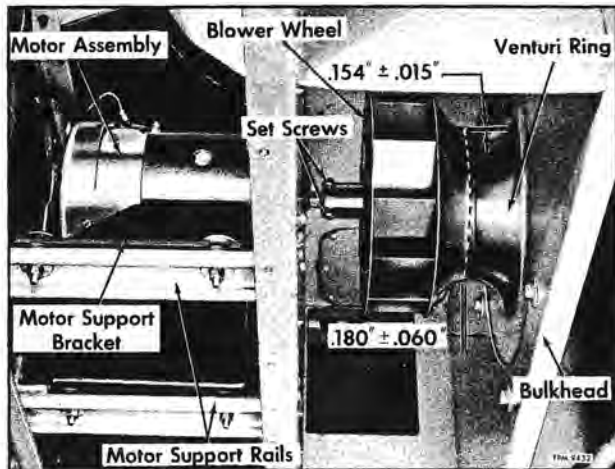

Figure 26—Blower Motor and Wheel Installed
Two blower and motor units are used to circulate air through the heating system. Both units are mounted on bulkhead at rear of the heating compartment (fig. 26).
3. Slide blower wheel fore or aft on motor shaft to a position whereby wheel will overlap edge of venturi ring by  $0.180" \pm 0.060"$  as shown in figure 26. After obtaining this adjustment, tighten wheel set screws firmly. Refer to similar illustration in AIR CONDITIONING (SEC. 26) of this manual, for overlap dimensions with air conditioning.